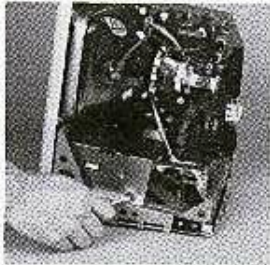

Figure 2-13
- a. Mount the cable mounting bracket supplied with the Outbound to the Macintosh chassis using the flat washer and hex locknut. Be sure to slide the cable mounting bracket's flange under the lip of the chassis as shown in Figure 2-13.